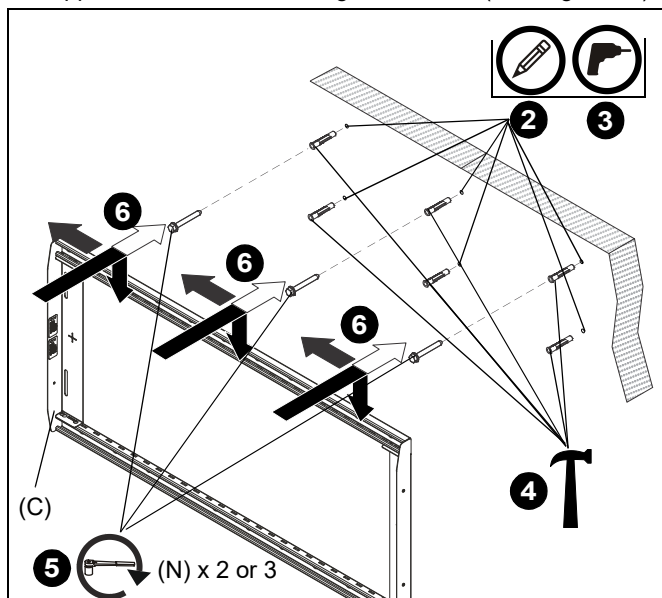
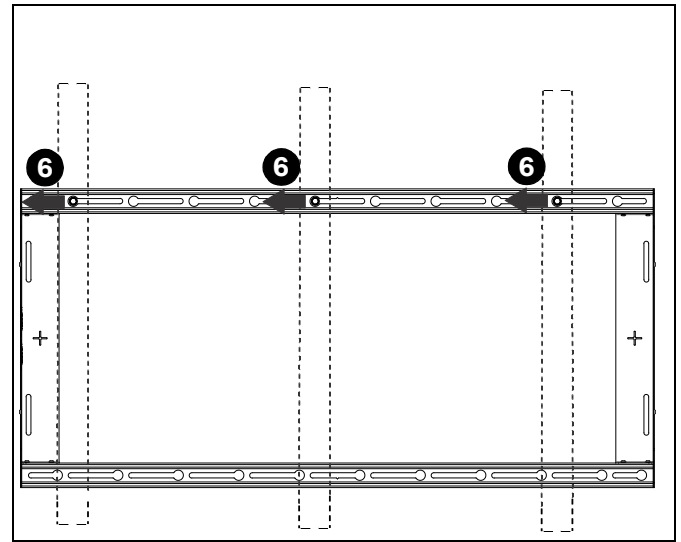

Figure 15
Figure 16
4. Use a hammer to install six concrete anchors (M) into drilled holes. (See Figure 15)
5. Partially install three 5/16 x 2-1/2" flanged lag bolts (N) into upper anchors but do not tighten to wall. (See Figure 15)
6. Hang rail assembly (C) and slide slightly to the left until bolts (N) are clear of keyhole slots and able to hold mount to wall. (See Figure 15) and (See Figure 16)